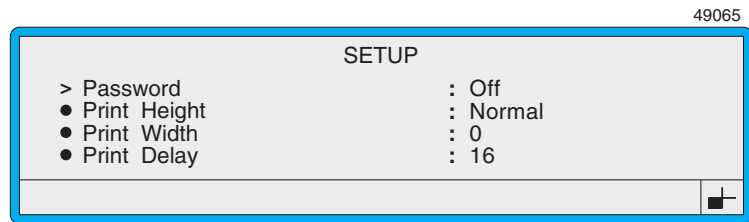

Figure 3-17 Setup Menu: Password Option
2. Scroll to the top of the **SETUP** menu until the cursor rests at the **Password** option (see Figure 3-17 on page 43).